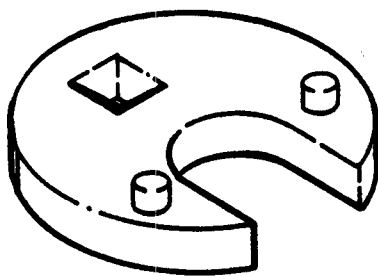

Figure 1. Spanner Wrench for Removal/Installation of Cylinder Head
3. Use spanner wrench, Figure 1, and remove rod bearing.